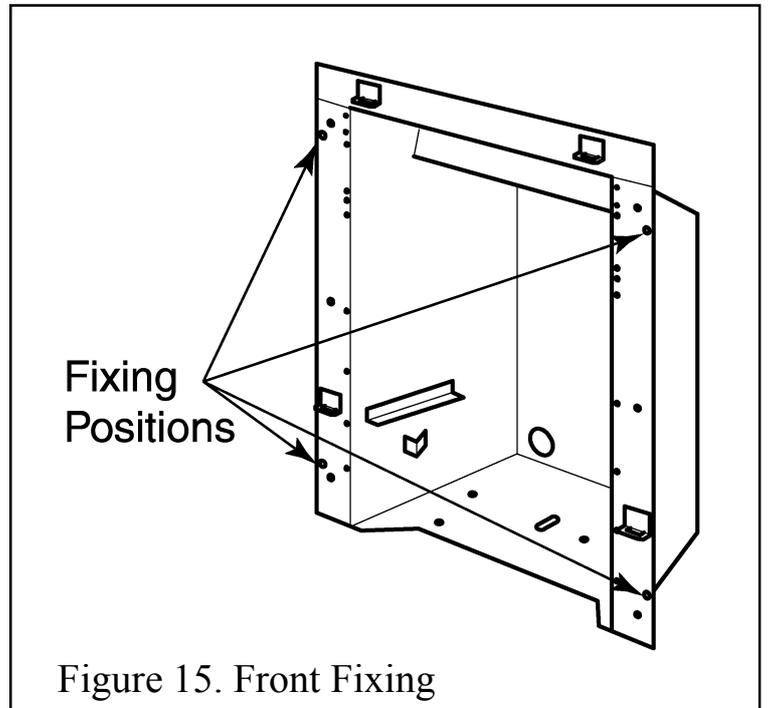

Figure 15. Front Fixing
3. Mark the fireplace front surround through the four fixing holes in the side flanges of the hotbox. See figure 15.